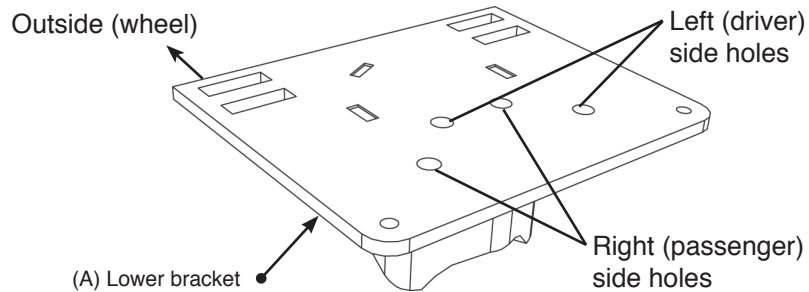

fig. 5
If you have no fifth wheel hitch or a hitch that does not have a plate running alongside the full length of the frame (these will have an “L” bracket forward and behind the axle leaving the middle frame open) use the 1/2”-13 x 2.00” hex cap screw (HH) with a flat washer (R) through the slot in the side of the frame, then through another flat washer (R) and finally through the upper brace. Cap with a flat washer (R) and a 1/2”-13 nyloc nut (X) (Fig. 5). Leave loose at this time.
Insert a 1/2”-13 x 3.00” hex cap screw (O) with a flat washer (R) through the fifth wheel plate previously drilled, the frame, then through another flat washer (R) and finally the upper brace. Cap with a flat washer (R) and a 1/2”-13 nyloc nut (X) (Fig. 5). Leave loose at this time.
2. Install the swivel elbow fitting (Z) into the top of the bellows finger tight. Tighten the swivel fitting 1 1/2 turns.
3. The lower bracket (A) has two sets of bellows mounting holes. Using the corresponding holes in the lower bracket designated (Fig. 5), attach the bellows to the brackets using the 3/8" flat washers (W), lock washers (U), and 3/8"-24 x 7/8" hex head cap screws (N). Torque both mounting screws to 20 lb.-ft.